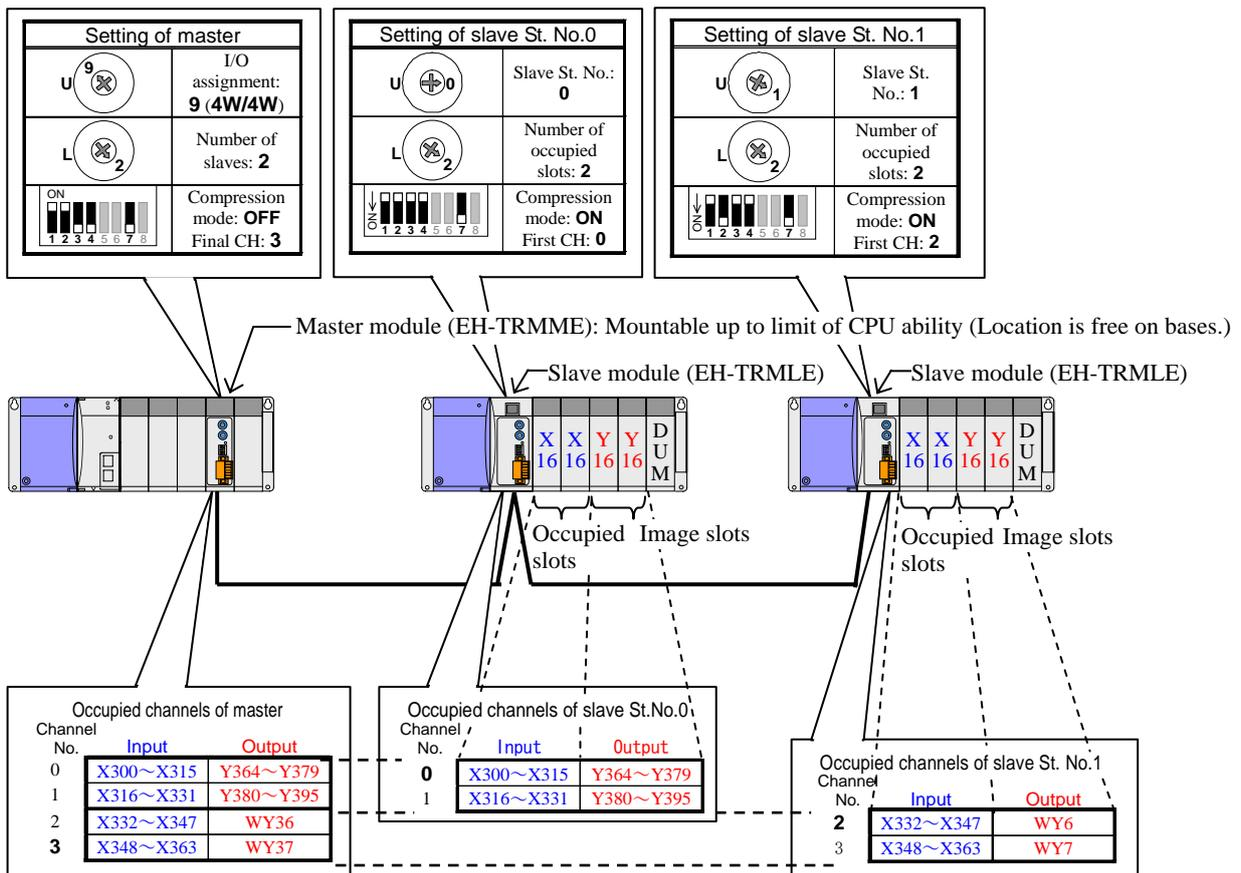

Figure 4.25 Replaced system configuration example-10 of the EH-150
Figure 4.25 shows replaced system configuration example with compact remote.
Figure 4.25 is an example of replacing all of master and slave modules with the EH-150 series. It is also possible to leave all or partially slave modules like the H-200 series in order to postpone the wiring work of slaves. In this case, please turn off high-speed refreshing mode (HS) of a front DIP switch of the master module and the slave modules.